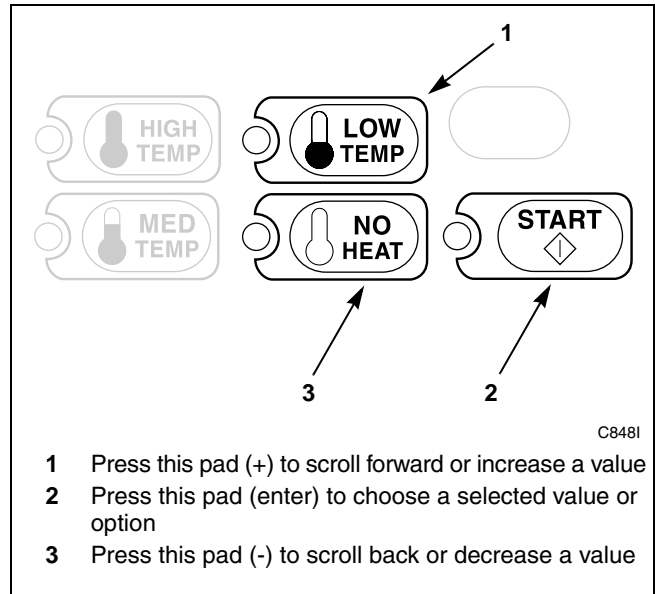

Figure 50
5. Press the LOW TEMP (+) or the NO HEAT (-) keypad to increase or decrease the start date to the desired date. Refer to *Figure 50*.